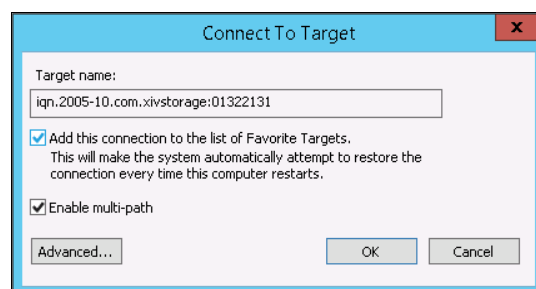

Figure 3-16 Connect To Target window
8. In the Connect To Target window, select **Enable multi-path**, and **Add this connection to the list of Favorite Targets** (see Figure 3-16). These settings automatically restore this connection when the system boots.